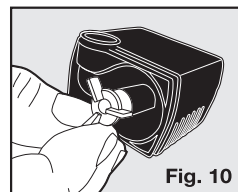

Fig. 10
4. Once the Intake Plate is removed, you can also remove the Impeller (white, 3-bladed propeller) which is held in place magnetically. To remove the Impeller, use a fingernail to get underneath a blade and lift out (**Fig. 10**).